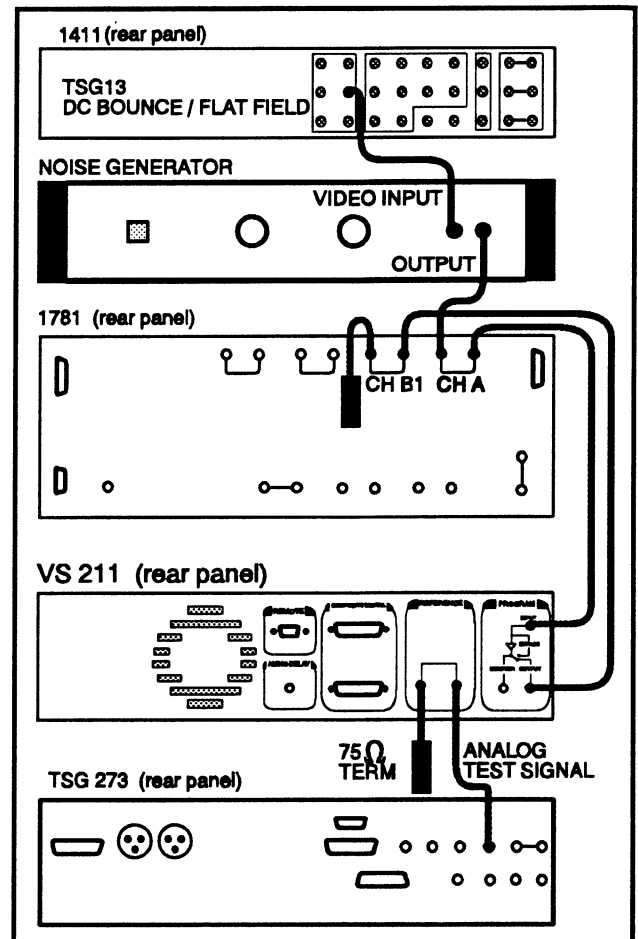

Fig. 4-10.
- Connect the test equipment as shown in Fig. 4-10.